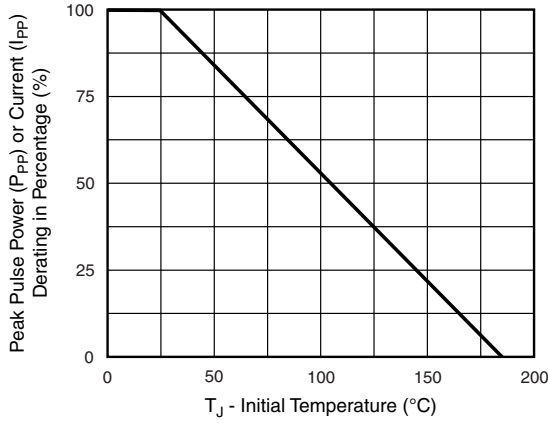

Fig. 2 - Pulse Power or Current vs. Initial Junction Temperature
- (1) Non-repetitive current pulse, per fig. 3 and derated above $T_A = 25\text{ °C}$ per fig. 2
- (2) Measured on 8.3 ms single half sine-wave, or equivalent square wave, duty cycle = 4 pulses per minute maximum
- (3) Pulse test: 300 μs pulse width, 1 % duty cycle
- (1) V_{BR} measured after I_T applied for 300 μs , I_T = square wave pulse or equivalent
- (2) Surge current waveform per fig. 3 and derated per fig. 2
- (3) To calculate V_{BR} vs. junction temperature, use the following formula: V_{BR} at $T_J = V_{BR}$ at $25\text{ }^\circ\text{C} \times (1 + \alpha_T \times (T_J - 25))$
- (4) All terms and symbols are consistent with ANSI/IEEE C62.35
- (5) Use B suffixes to indicate that the cathode is on the two-pin side